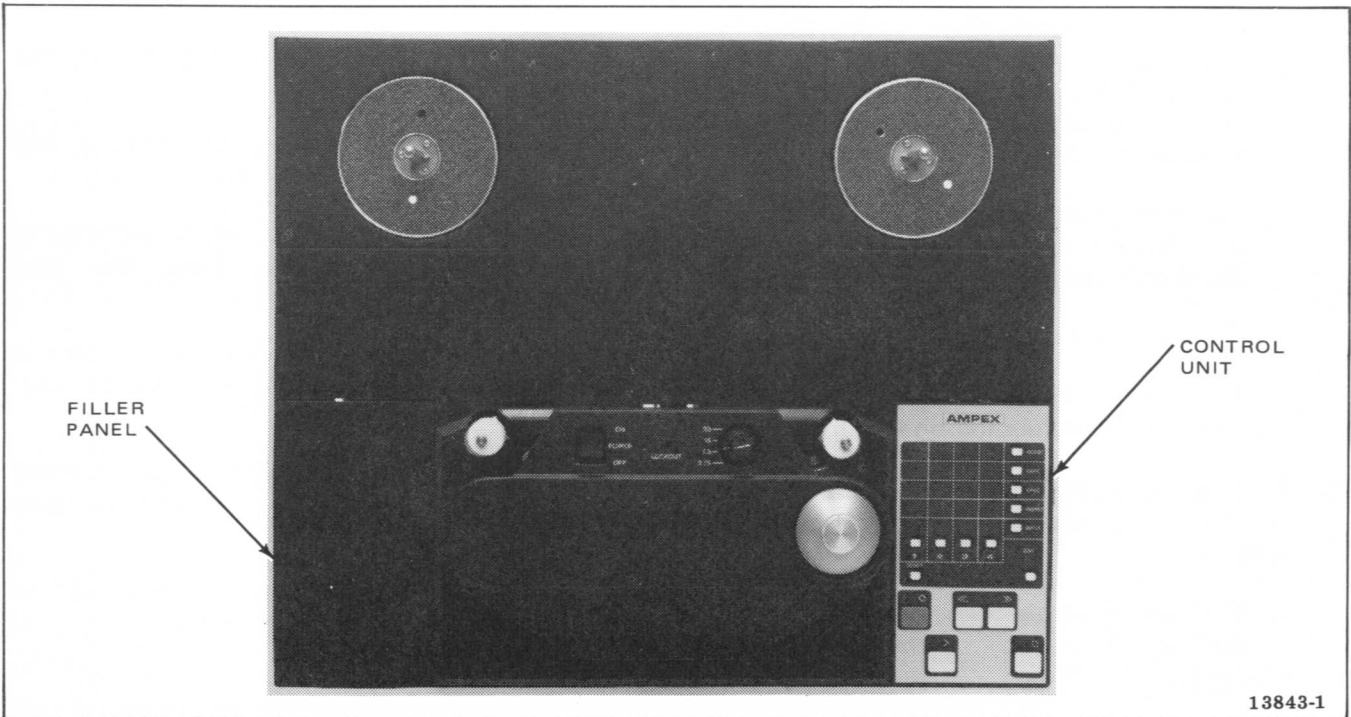
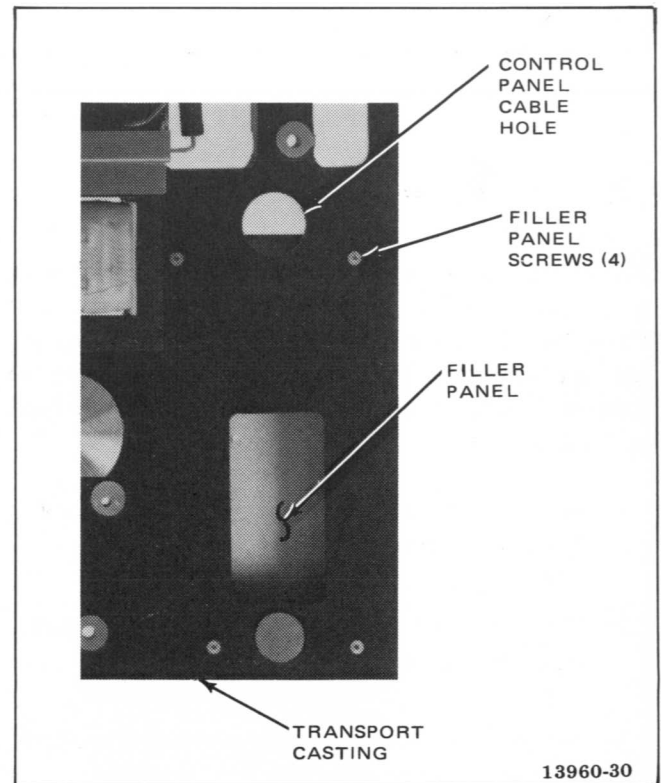

Figure 2-19. Tape Transport
Figure 2-20. Rear View of Filler Panel (Transport Components Removed for Clarity)
For operator convenience, the control unit (Figure 2-19) may be relocated from the right-hand position on the top of the transport to the left-hand position. To relocate the control unit, it is also necessary to remove the electronics chassis from the transport to gain access to the screws that secure the filler panel shown in Figure 2-20. Proceed as follows:
6. Remove left-hand filler panel by removing four flat-head screws accessible from the bottom of the transport casting (Figure 2-20).
7. Feed control unit captive cable connector P11 through hole in the left side of the transport (Figure 2-20) and mount control unit using screws removed in step 3.